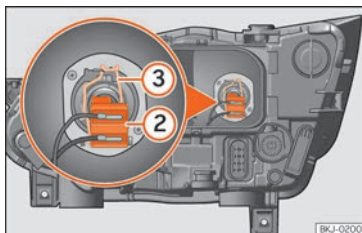

Fig. 105 In the engine compartment: dipped beam lamp.
- Remove the bulb connector » **Fig. 105 ②**.
- Unclip the retainer spring » **Fig. 105 ③** pressing inwards to the right.